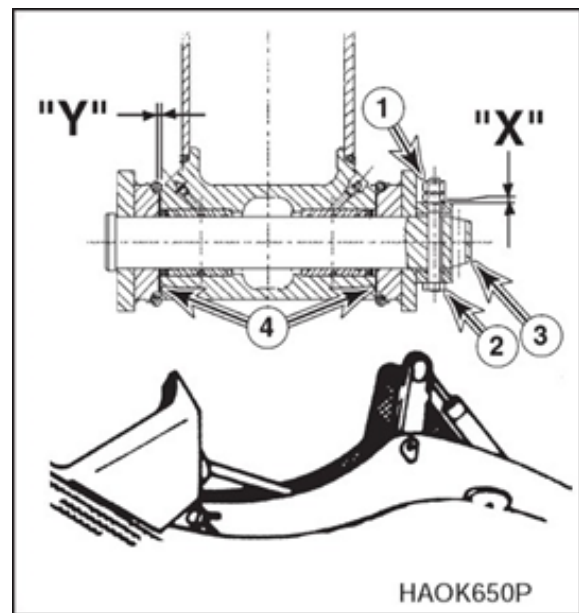

Figure 17
2. After the O-ring seal is installed, you should push the bucket to one side to check the gap between the other side of the bucket and bucket link. The total gap between the bucket internal lug and the bush end face (Y, Fig.17) shall be 1MM. If the fit is too tight (less than 1 MM), it will aggravate the wear, and if the fit is too loose, it will generate too much noise and the action will be slack.
4. When it is needed to adjust, you should remove the back cap(1, Fig.17) and bolt (2) from the pin (3) , remove or add shim (4). The same quantity of shims shall be used on both sides. Install bolt (2) and nut (1). A gap of 1-2MM shall be retained between the nut and the bush at the point "X"